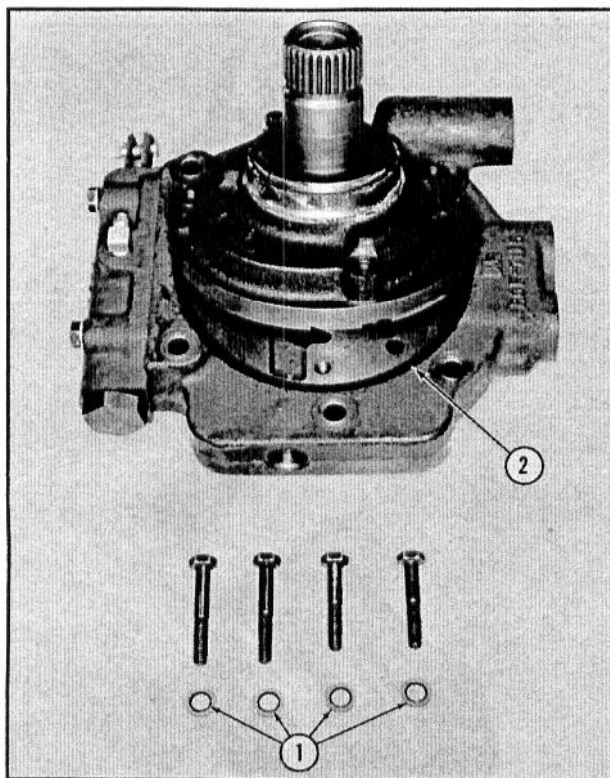

Fig. 24 — Removing the Oil Pump
1. Remove the pump-to-oil manifold attaching capscrews and dyna-seal washers. See Fig. 24.